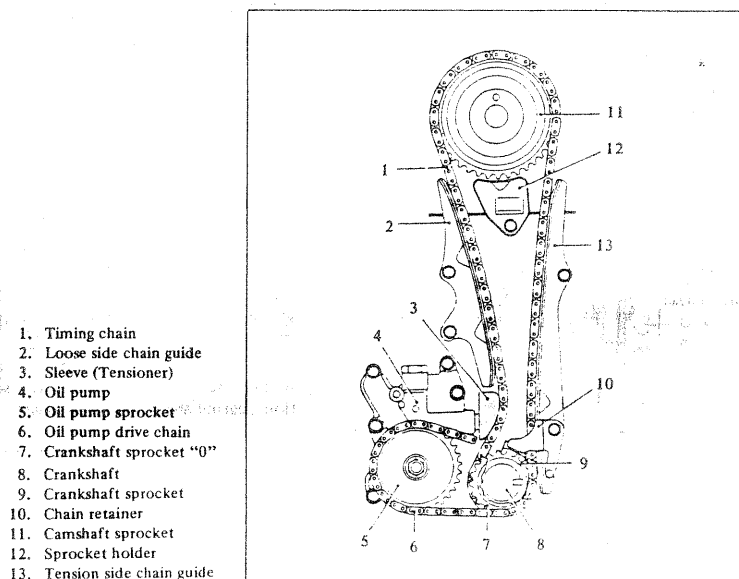

Figure 1.3-D. Timing System Parts
1.3.2- **CYLINDER BLOCK DISASSEMBLY** (Figures 1.3-E, 1.3-F)